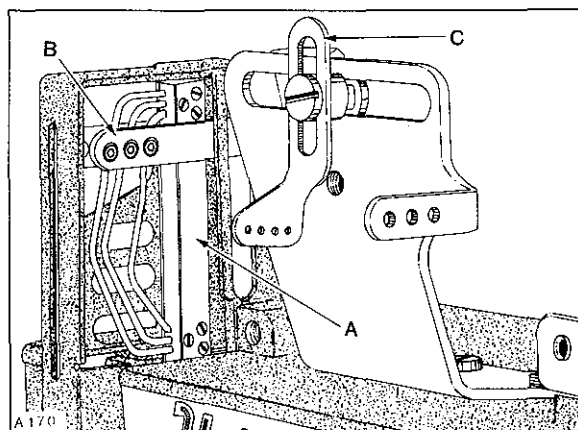

Fig. 40
With needle bar at TOP of stroke, needle thread take-up wire holder (A, Fig. 40) should be positioned (front to rear) with 1/16 inch (1.6mm) clearance between front surface of front take-up wire and centerline of front eye in needle bar eyelet (B). If adjustment was required, be sure to center take-up wires between eyes of needle bar eyelet.